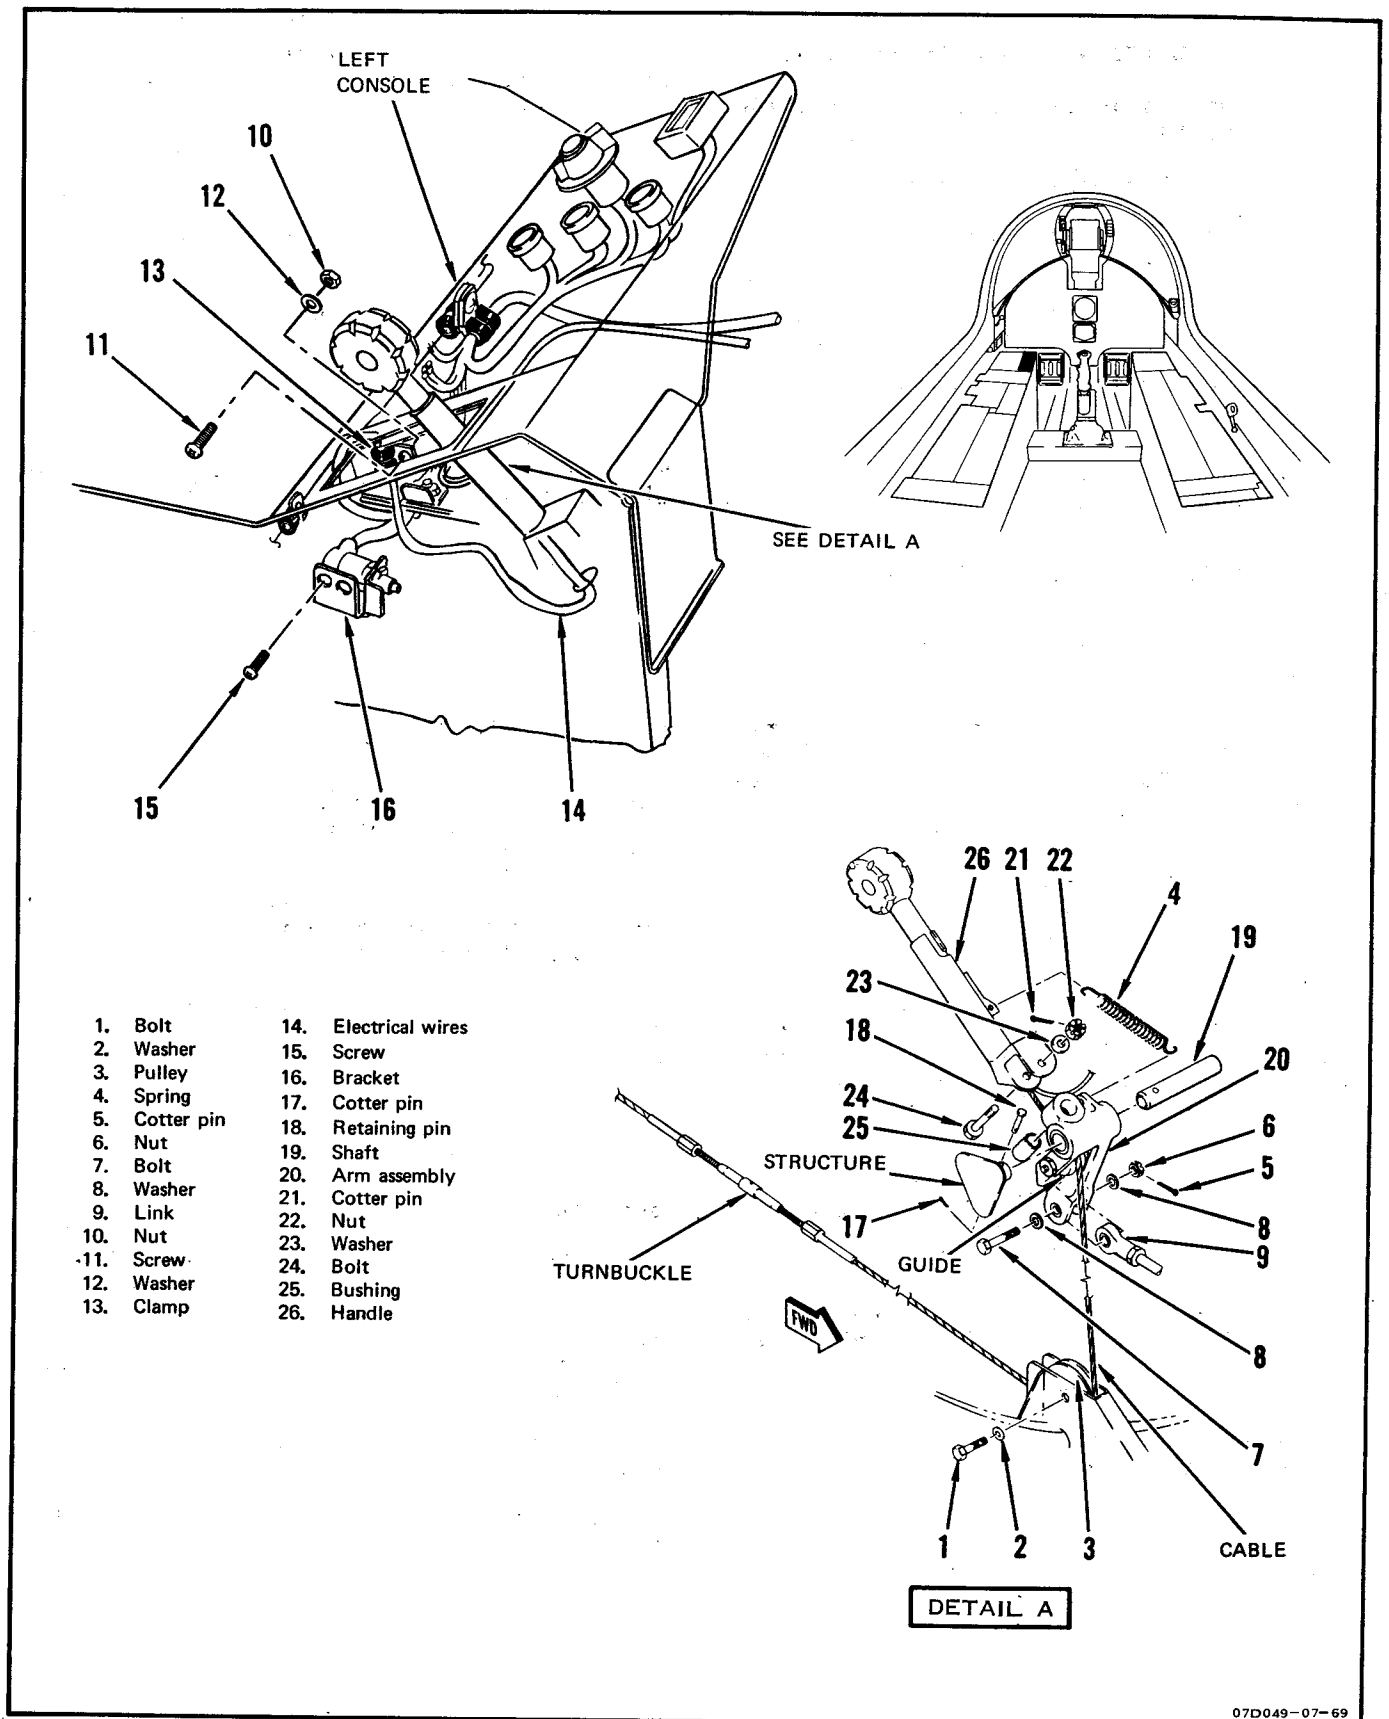

Figure 4-5. Landing Gear Handle Assembly Removal and Installation
**4-23. REMOVAL. (See figure 4-5.)**
- h. Remove bolt (1) and washer (2) securing pulley (3) to structure and remove pulley from airplane.
- i. Disconnect spring (4) from landing gear handle.
- j. Remove cotter pin (5), nut (6), bolt (7), and washers (8) securing link (9) to arm assembly. Position link clear of handle removal path.
4-24. INSTALLATION. (See figure 4-5.)
4-26. REMOVAL. (See figure 4-5.)
4-27. INSTALLATION. (See figure 4-5.)